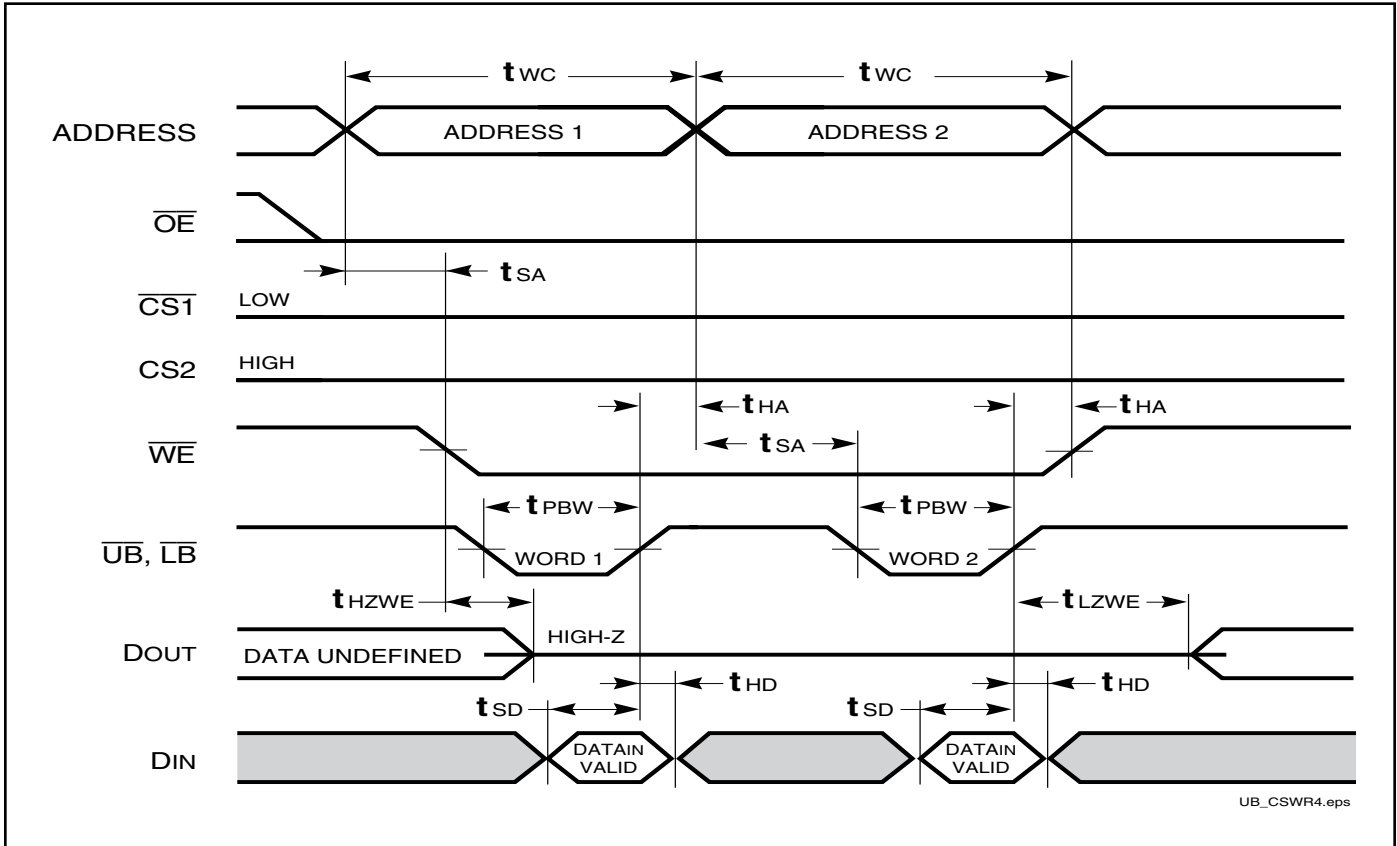
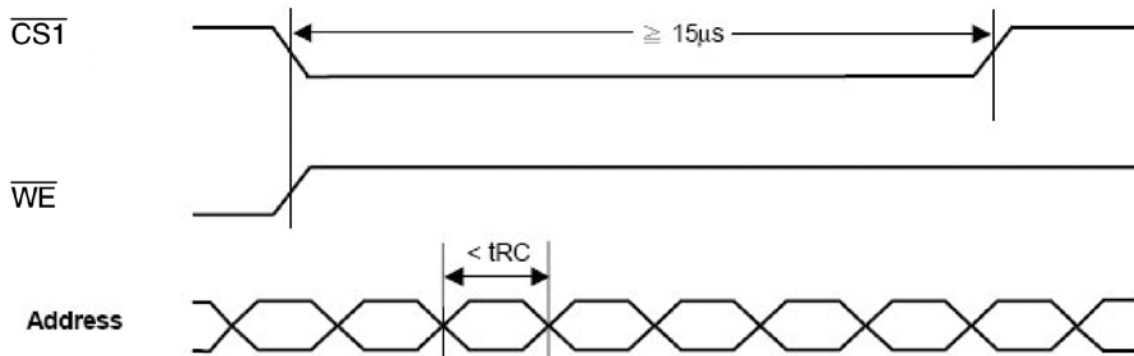

Figure 1: **Avoidable Timing**
Figure 2:
1. Test conditions assume signal transition times of 5 ns or less, timing reference levels of 0.9V/1.5V, input pulse levels of 0.4 to VDD-0.2V/0.4V to VDD-0.3V and output loading specified in Figure 1.
3. Tested with the load in Figure 2. Transition is measured  $\pm 100$  mV from steady-state voltage. Not 100% tested.
Please avoid address change for less than  $t_{RC}$  during the cycle time longer than  $15\mu s$  (Figure 1). Figure 2 & 3 provide work around solution for this issue.